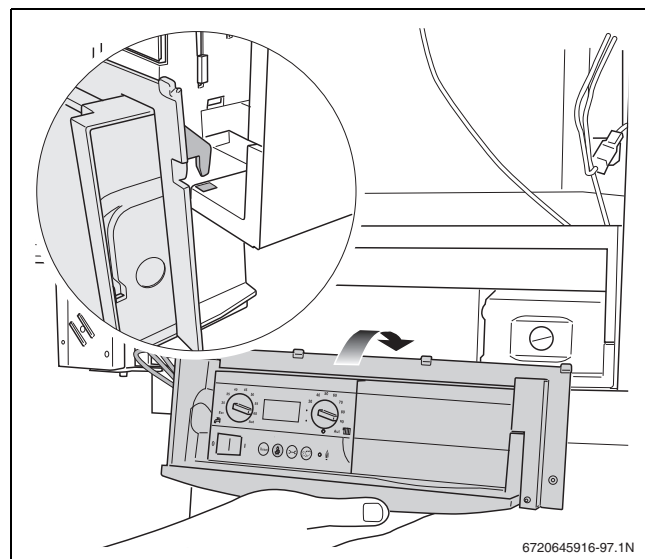

Fig. 100 Hanging the control panel from the boiler frame
- ▶ Use the 2 hooks to hang the control panel from the boiler (→ fig. 100).